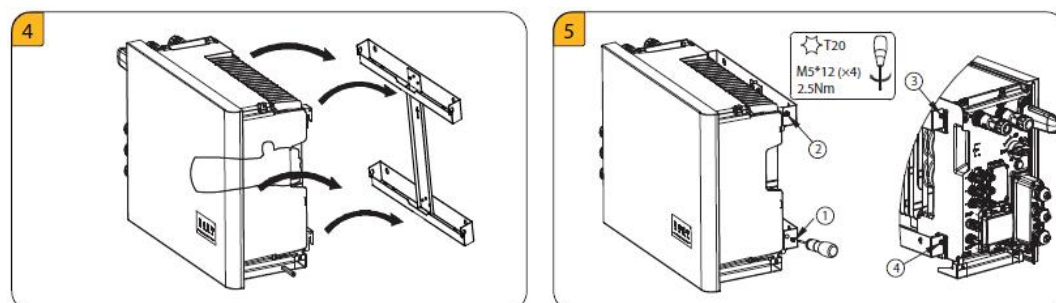

Figure 5-8 The inverter is connected to the bracket diagram
9. Secure the inverter to the wall bracket. Insert the hexagon head screws M5*12 into the lower and upper threaded holes on both sides of the inverter hanging hooks respectively and tighten them. Ensure that the inverter is securely in place. Refer to 3 in Figure 5-8.